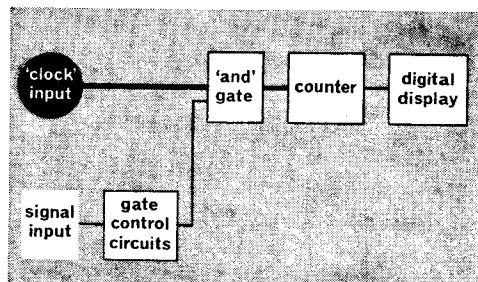

Fig. 2. Use as a timer
3. **Time measurement.** To measure time, the inputs used for frequency measurement are connected as shown in figure 2. The instrument then counts the number of clock pulses which pass through the gate in a time period controlled by the input signal, usually one complete cycle. The clock is normally arranged so that pulses are generated at intervals of one-tenth of a microsecond minimum. A selector switch enables other clock pulse rates to be used, usually in decade steps from the master oscillator frequency. As all these rates are produced by division from the master oscillator their accuracy is the same.